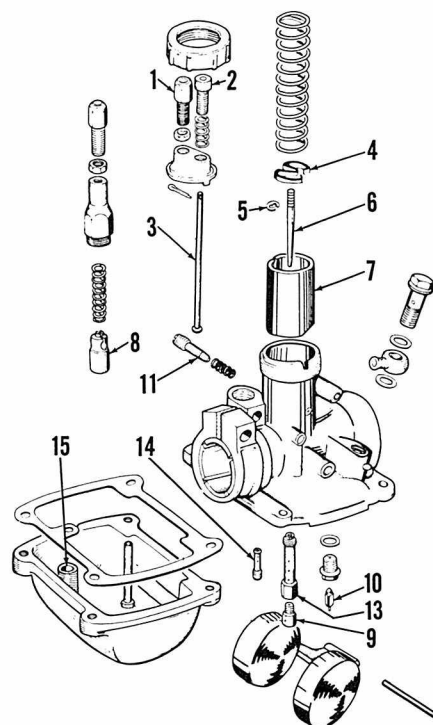

Fig. BS3-1—Exploded view of Mikuni VM type carburetor.
**CARBURETORS.** Two Mikuni VM type carburetors are used. Idle speed is adjusted at (2—Fig. BS3-1) after removing the carburetor top covers (rubber). Idle mixture is adjusted at
Carburetors must be synchronized to begin opening both throttle slides (7—Fig. BS3-1) at the same time by adjusting cable guides (1) at top of each carburetor.